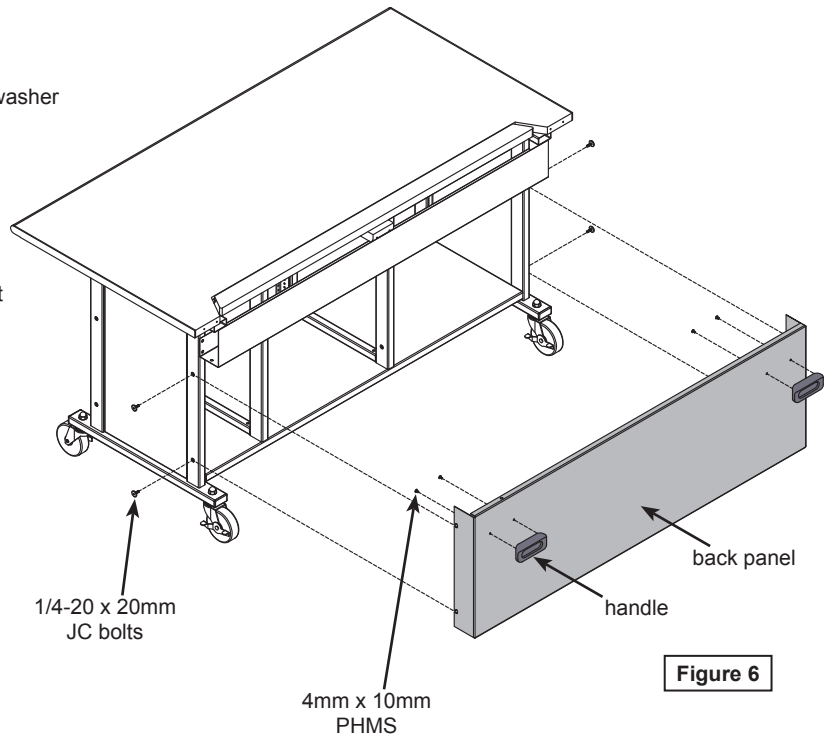
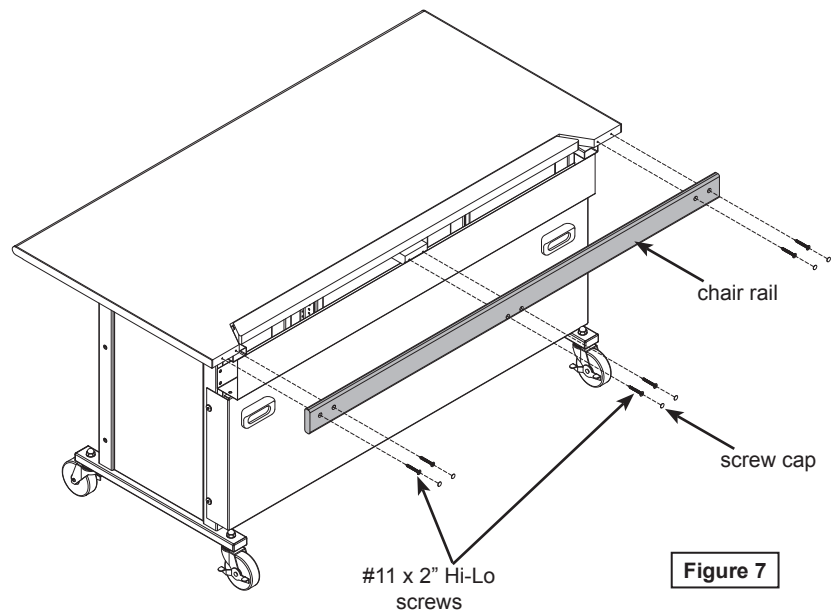

Figure 6
Figure 7
- Thread in (4) 1/4-20 x 20mm JC bolts into the side of the back legs as shown in **Figure 6**, but do not tighten completely-the back panel will lock onto these bolts.
- Attach each handle to the back panel as shown with (2) 4mm x 10mm PHM screws and tighten securely.
- Attach the chair rail to the desk as shown in **Figure 7** with (6) #11 x 2" hi-lo screws and tighten securely.